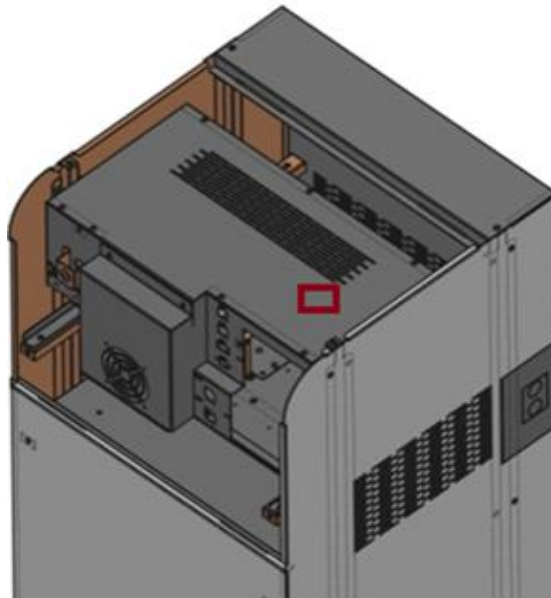

Figure 3 – Hole position for **USB PC port**
- Locate the hole in the upper part of the carter, with the words: **"USB PC"** and connect the cable (the USB is in position indicated by the image) (Fig. 3);